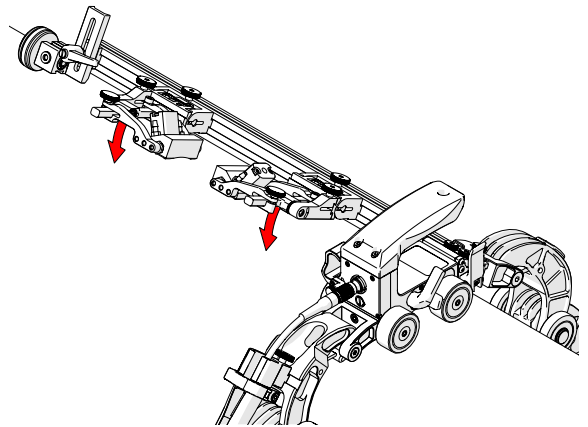

Fig. 164 - Lower probe holders
12. Lower the probe holders (Fig. 164) to the scan surface (see Probe Holder Adjustment on page 31).